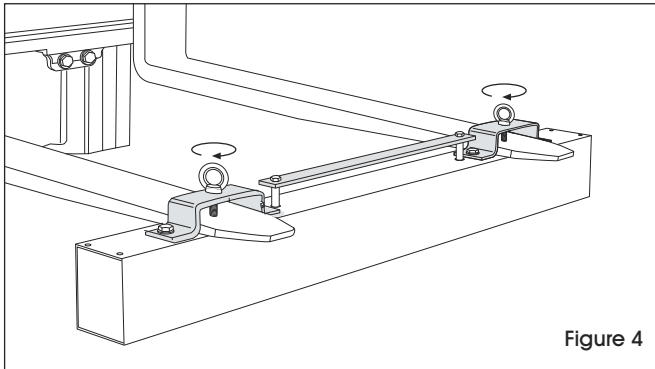

Figure 4
2. Tighten eyebolts once magnet is centered and in the desired position. (See Figure 4)